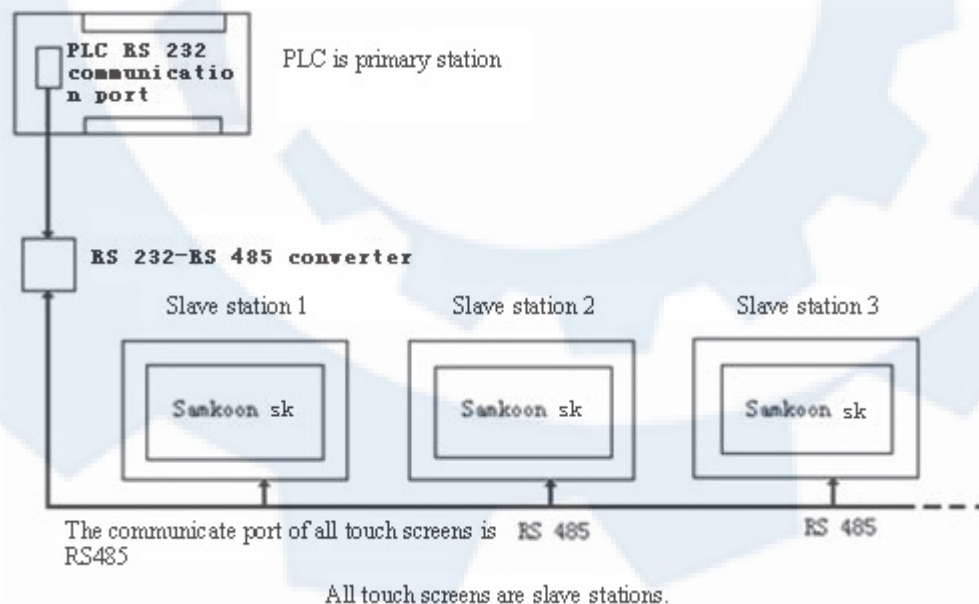

Figure 8-1 Schematic diagram of connection mode "One device with multiple screens" When PLC (RS232) is primary station
1. The communication port RS232 connected with PLC, connection method and system setting are as shown in figures 8-1, 8-2 and 8-3.